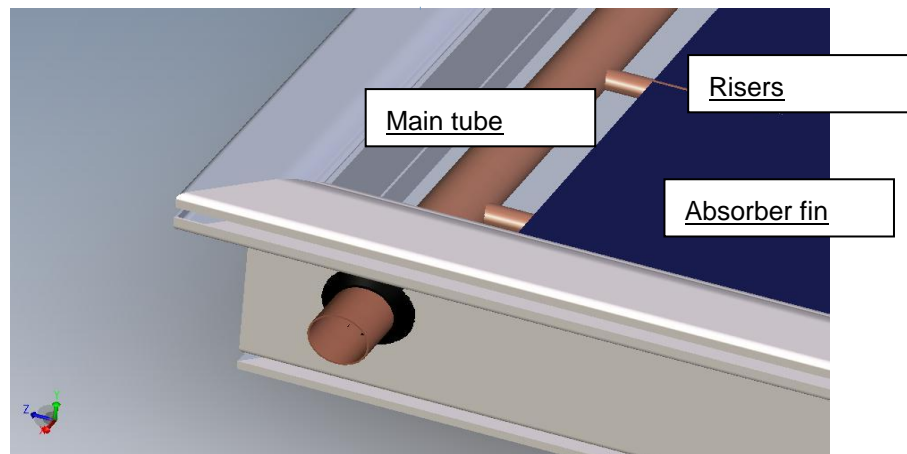

Figure 2.1.1 Structure of solar panel
2.1.1 Structure of solar panels--flat panel type (Figure 2.1.1)